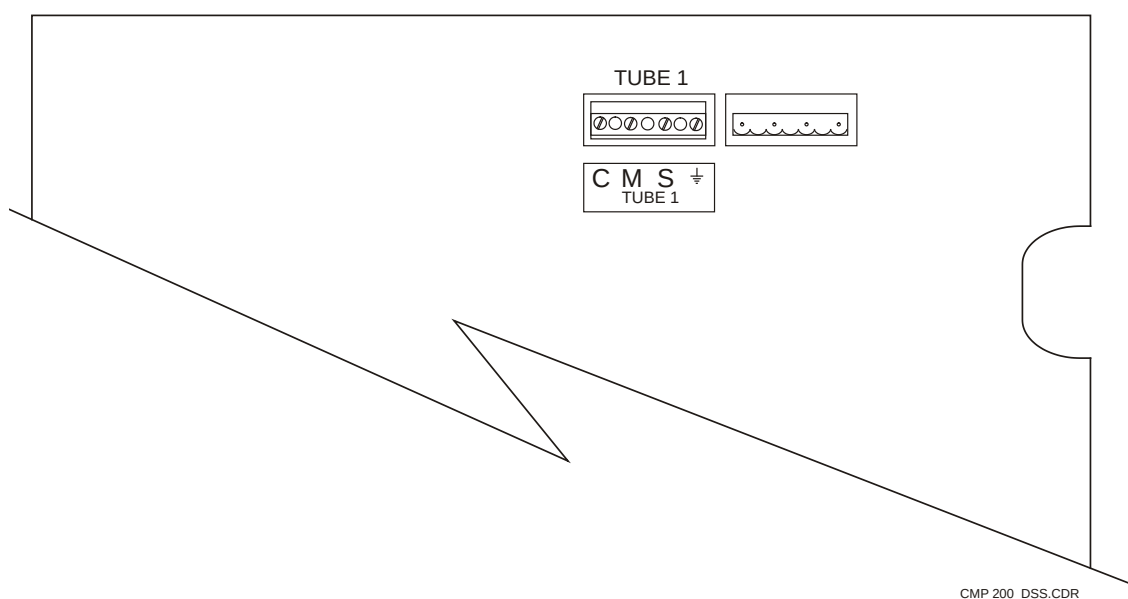

Figure 2-6: Stator connections on dual-speed starter chassis
Refer to figure 2-6 for the X-ray tube stator connections for the dual-speed starter.
1. Route the X-ray tube stator cable to the stator terminal block on the back of the dual-speed starter chassis. Refer to figure 2-6.
THE STATOR CABLE FOR THE DUAL-SPEED STARTER MUST BE SHIELDED. THE SHIELD FOR THE STATOR CABLE MUST BE PROPERLY GROUNDED AT BOTH THE TUBE END AND THE GENERATOR END OF THE CABLE. CONNECT THE GENERATOR END OF THE SHIELD TO THE GROUND TERMINAL ON THE STATOR TERMINAL BLOCK (FIGURE 2-6).